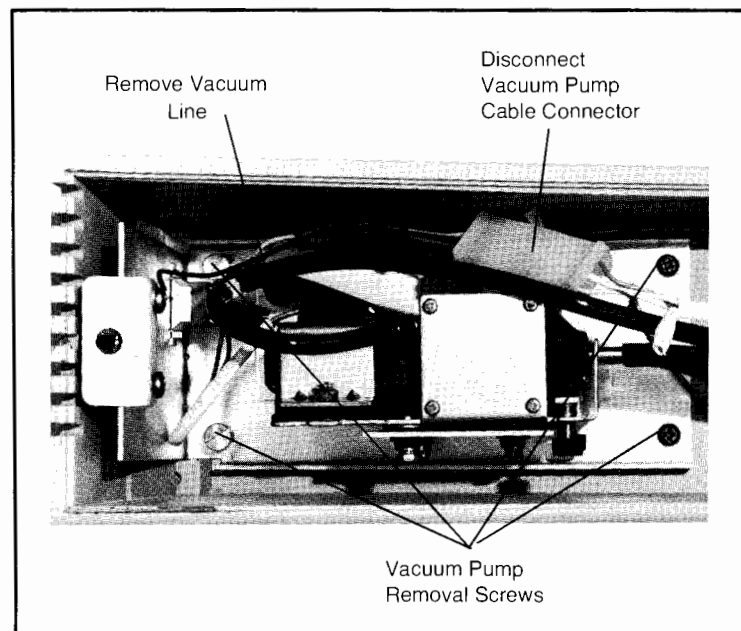

Figure 6-4. Vacuum Pump Module Removal
- Remove the four screws that hold the vacuum pump module to the base plate (see Figure 6-4).